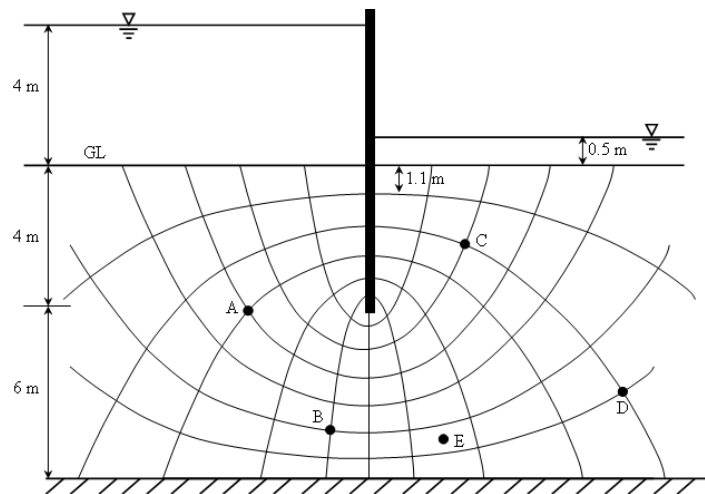

Fig.2
- (c) A single row of sheet piles (Figure 2) is driven upto a depth of 4 m in a bed of clean sand having a co-efficient of permeability of 0.002 cm/sec. An impermeable layer of very stiff clay exists at a depth of 10 m below the ground level GL. The sheet pile wall has to retain water upto 4 m above GL. The height of water level on the downstream side is 0.5 m. The length of the last element is 1.1 m. Determine (i) Quantity of seepage loss considering unit width of the sheet piles, (ii) Piezometric heads at points A, B, and C, (iii) Exit gradient and (iv) Factor of safety against piping. [Given:  $G = 2.67$ ,  $e = 0.95$ ].